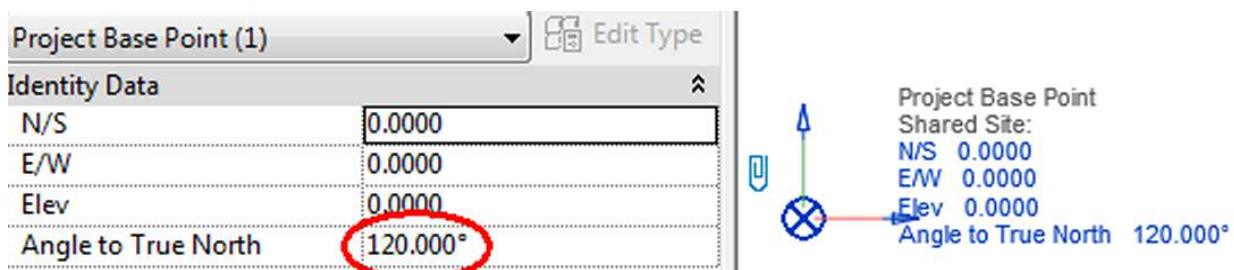

Fig. 1.23 – Setting True North
6. In Properties palette, change Angle to True North = 120° (Fig. 1.23).